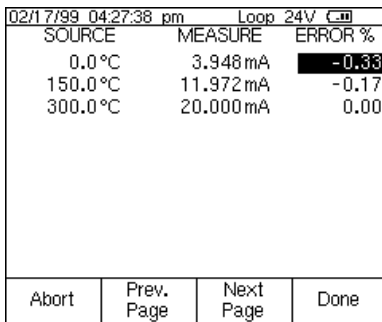

Figure 13
- Press the **Auto Test** softkey to begin calibration. Once the test is complete, an error summary table is displayed (Figure 13). Test errors exceeding the tolerance are highlighted. When done viewing the table, press the **Done** softkey. Press **Done** again to accept, or **ENTER** to change the tag, serial number or ID fields.